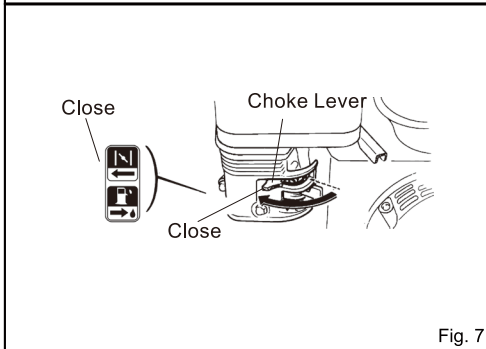

Fig. 7
2. Close the choke lever. (Fig. 7)